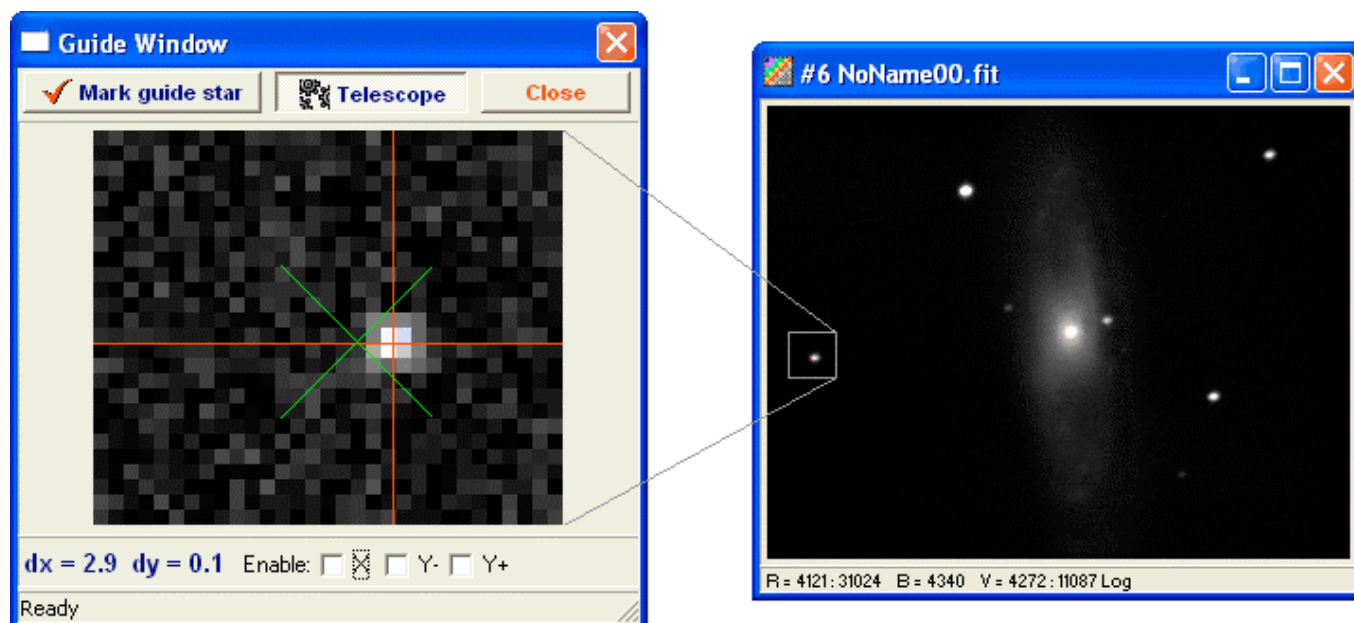

Fig. 9 - The Guide Window
You will need also a motorized mount with a control pad. The Astroart Guide Window will let you easily guide the telescope watching a reference star on the screen. See: Fig.9.
4. After a while the guide star will appear in the *Guide Window* (see Fig. 9). Click on the **Mark guide star** button: a green cross will automatically mark the initial position of the guide star, while a big red cross will follow the star while its shifts from the original position. If you are going to guide manually you simply have to act on your telescope control pad to keep the green cross over the red one.